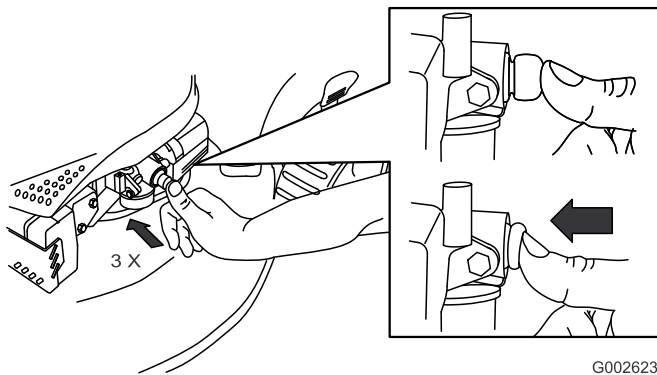

Figure 17
2. Firmly push in the primer 3 times with your thumb, holding the primer in for a second before releasing it each time (Figure 17).